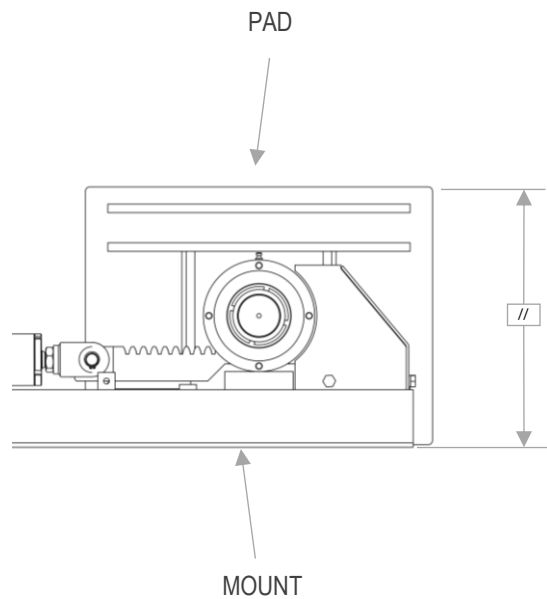

Figure 23
7. If the pad is parallel to the mount and the two left and right pads are also aligned with each other, the timing is correct (see Figure 23)
8. If the pad is not parallel to the mount (as shown in Figure 23) or the two pads are not aligned with each other, adjust the position of the fork assembly by screwing it or unscrewing it to turn the pad clockwise or counter-clockwise to bring it into the correct position (timing)